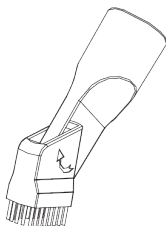

Fig. 12
2. As in fig.12, open the other side with bristles of the compressed brush as the mark of an arrow to clean the sofa, the curtain and the dust on the ornaments.